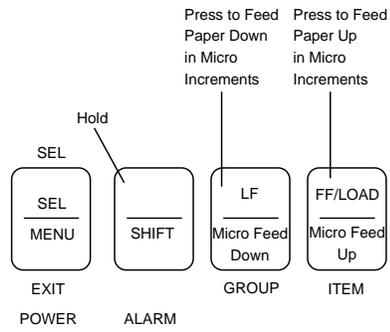

Figure 9-10. Model 602 Control Panel TOF Buttons
14. Use the control panel to adjust the TOF setting, if necessary. See Figure 9-10. To set the TOF further down the page, press and hold the **SHIFT** button while pressing the **FF/LOAD** button to advance the paper up in micro increments. To set the TOF further down the page, press and hold the **SHIFT** button while pressing the **LF** button to advance the paper down in micro increments.